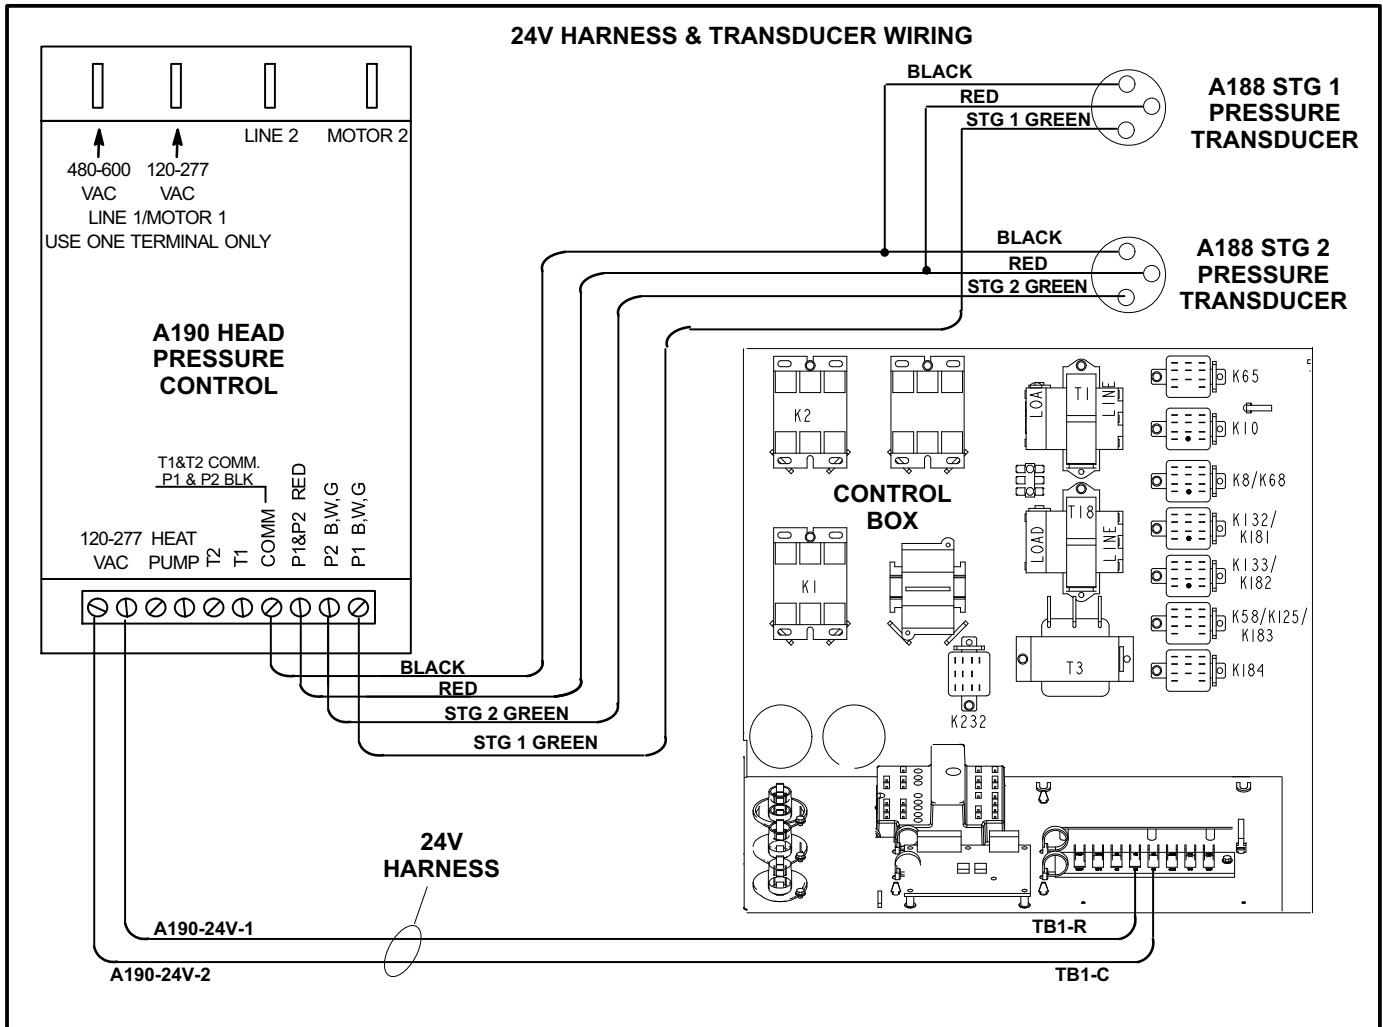

FIGURE 3
- 3- Make wire connections as shown in figure 3.